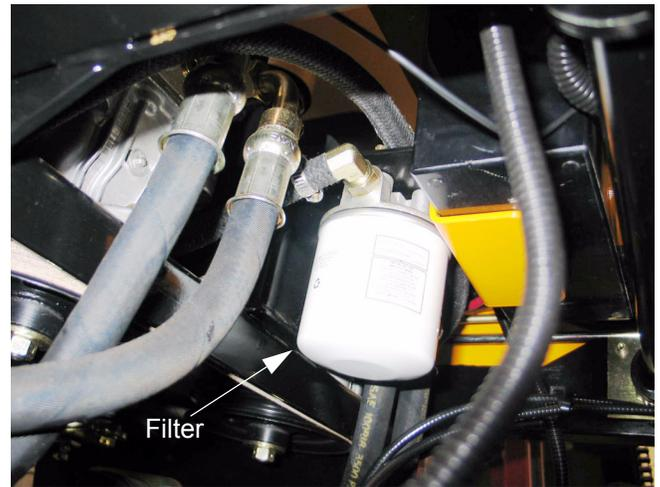

Figure 23.4
23.4. The hydraulic filter is mounted beneath a bracket just in front of the reservoir. It is accessible for service from below the frame. See Figure 23.4.